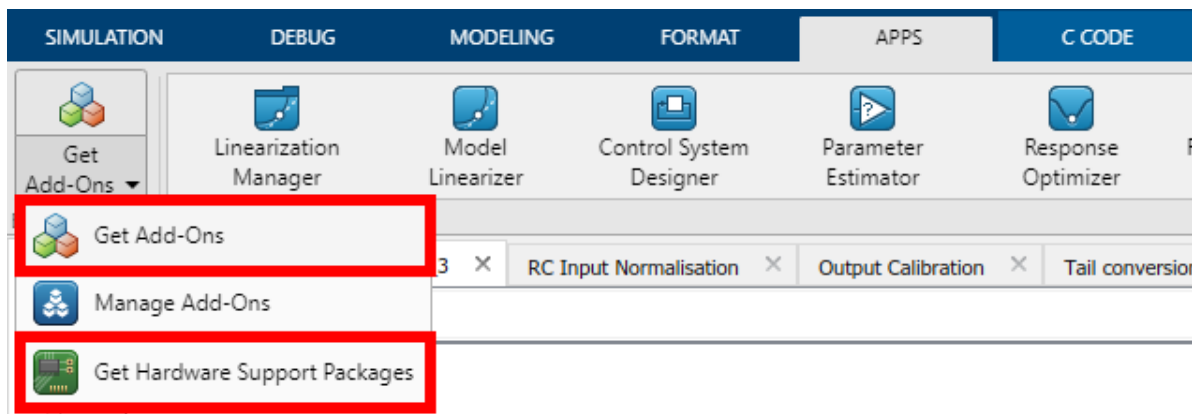
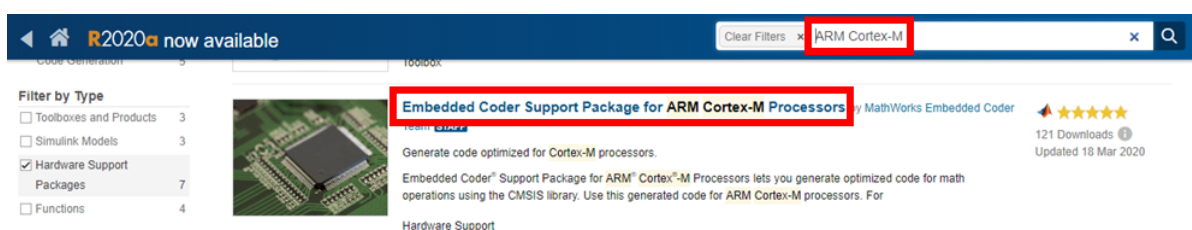

Figure 26: Simulink Add-Ons and Hardware Support Packages.
Figure 27: ARM Cortex-M Add-On.
1. **Installing required Software Add-Ons:** If the software add-ons are not pre-installed, the software packages MATLAB Coder and Simulink Coder need to be installed. Inside the Simulink integrated development environment (IDE), the installation menu can be found by clicking Get Add-Ons as shown in Fig. 26.
2. **Installing required Hardware Support Packages:** As shown in Fig. 15, the used microcontroller is an STM32. Mathworks provides hardware packages that support C++ code generation for STM32 microcontrollers. By clicking Get Hardware Support Packages as shown in Fig. 26, the Simulink hardware support menu will be opened. There, the support package Embedded Coder Support Package for ARM Cortex-M Processors can be found and needs to be installed (see Fig. 27).